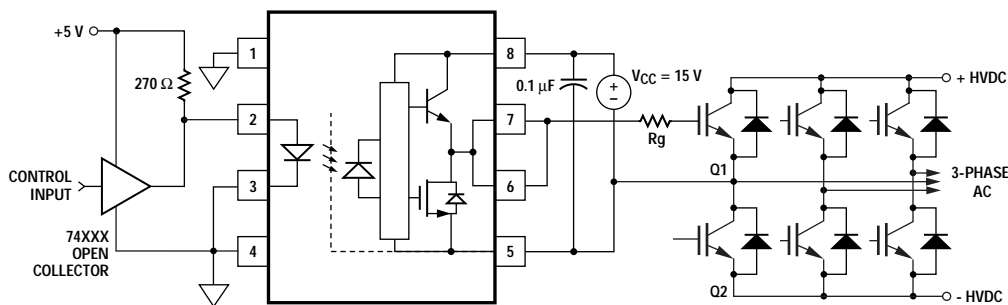
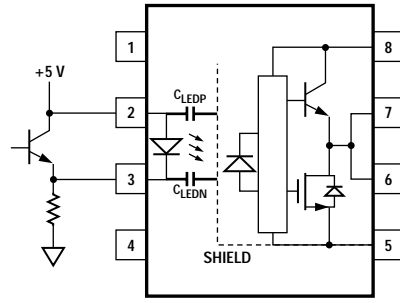

Figure 25. Recommended LED drive and application circuit for HCPL-3180.
Figure 32. Recommended LED drive circuit for ultra-high CMR.
by  $R_g + 1 \Omega$ . Minimizing  $R_g$  and the lead inductance from the HCPL-3180 to the IGBT gate and emitter (possibly by mounting HCPL-3180 on a small PC board directly above the IGBT) can eliminate the need for negative IGBT gate drive in many applications as shown in Figure 25. Care should be taken with such a PC board design to avoid routing the IGBT collector or
**Step 1:** Calculate  $R_g$  minimum from the  $I_{OL}$  peak specification. The IGBT and  $R_g$  in Figure 25 can be analyzed as a simple RC circuit with a voltage supplied by the HCPL-3180.
For the circuit in Figure 25 with  $I_F$  (worst case) = 16 mA,  $R_g = 10 \Omega$ , Max Duty Cycle = 80%,  $Q_g = 100 \text{ nC}$ ,  $f = 200 \text{ kHz}$  and  $T_{AMAX} = +75^\circ\text{C}$ :
design objective of a high CMR LED drive circuit becomes keeping the LED in the proper state (on or off) during common mode transients. For example, the recommended application circuit (Figure 25), can achieve  $10 \text{ kV}/\mu\text{s}$  CMR while minimizing component complexity.
performance. Figure 32 is an alternative drive circuit, which like the recommended application circuit (Figure 25), does achieve ultra high CMR performance by shunting the LED in the off state.